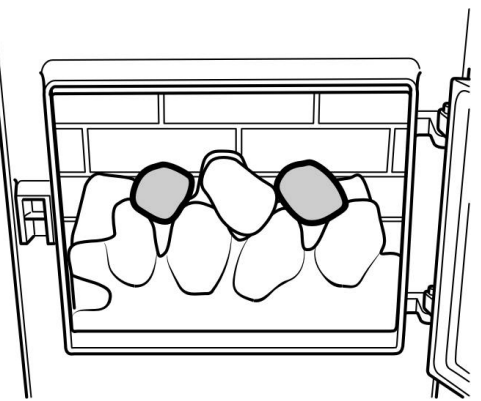

Figure 9.
7. Locate the two ceramic coals identified with a number '2' as in figure 9.